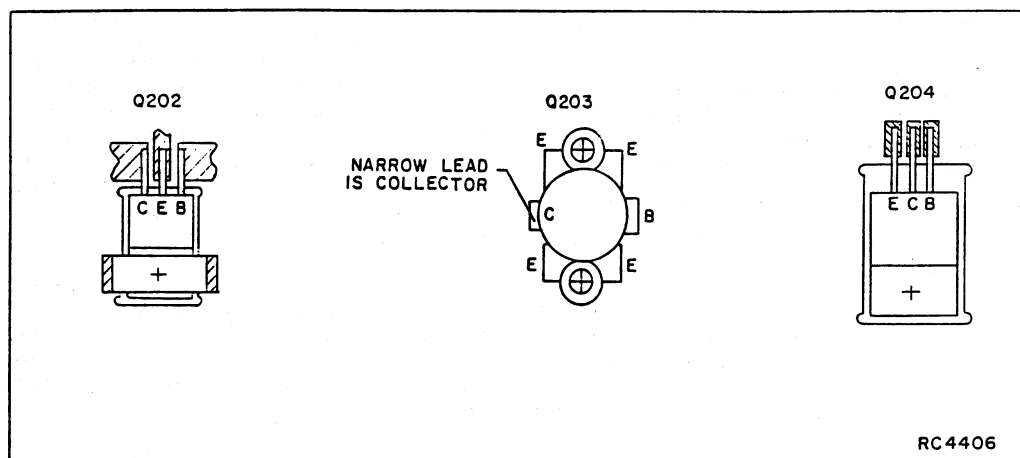

Figure 3 - Driver and PA Transistor Lead Identification
- 4. Trim the new transistor leads (if required) to the lead length of the removed transistor. The letter "C" on the top of the transistor indicates the collector (See Figure 3).